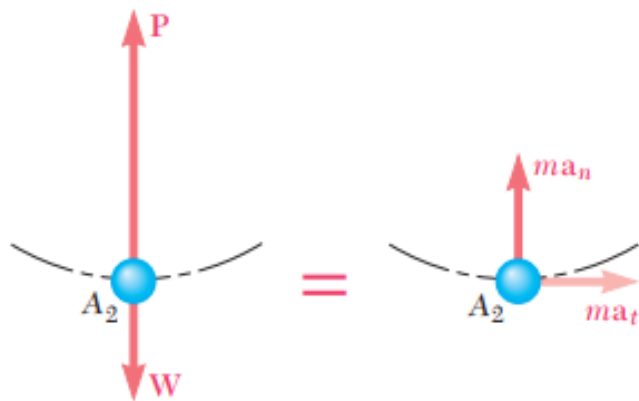

Figure 7. Determining the force on a pendulum
- Consider a body of weight  $W$ , which moves along the path  $s$  shown in Fig. 7, between 3 different points ( $O$ ,  $y_1$  and  $y_2$ ).